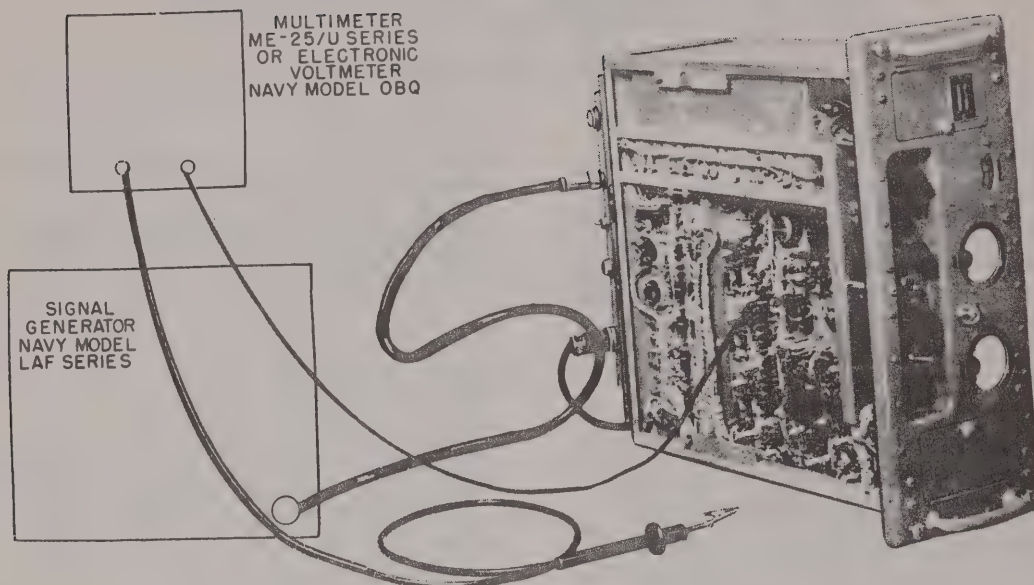
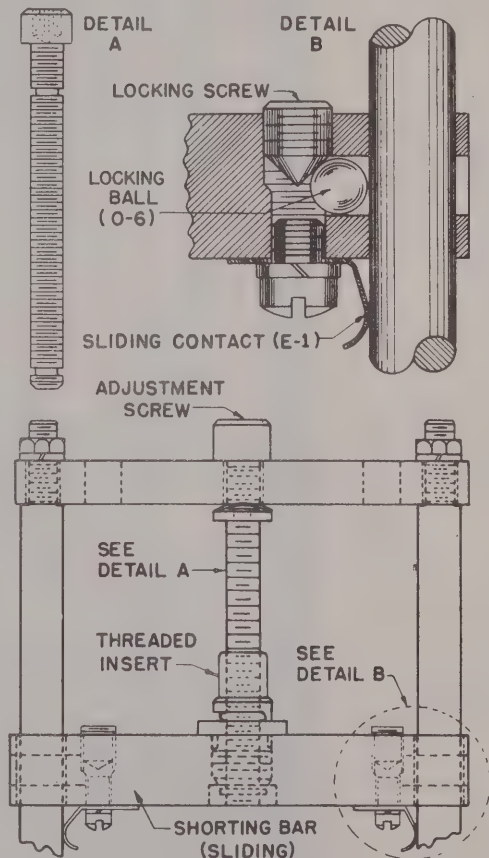

Figure 7-2. Bench Set-up for Alignment of R-f Section of Receiver
Figure 7-7. Details of Trimmer Inductances L103, L104, L107, L108, L111, and L112 (Preselector)
d. ALIGNMENT OF THE R-F SECTION OF THE RECEIVER (PRESELECTOR). (See figure 7-2).
The bench set-up for alignment of the preselector unit is shown in figure 7-2. Before beginning alignment remove the preselector shielding covers and loosen the inductance trimmer locking screws (figure 7-7) slightly (about $\frac{1}{8}$ th turn) by means of the Bristol type wrench mounted on the sub-panel near the dial drive assembly. Then replace the preselector shielding covers.
(8) With modulation OFF tune the Navy model LAF series signal generator for a maximum reading on the electronic multimeter. The output attenuator should be adjusted to give a reading of approximately 0.6 volts on the VTVM.
(9) Using the alignment tool, tune the r-f amplifier and mixer inductance trimmer screws (figure 7-7) for a maximum readings on the VTVM, in the following order:
(21) After alignment of the preselector, remove the preselector shielding covers and tighten the inductance trimmer locking screws (figure 7-7) carefully, so that the adjustments will not be disturbed.
(22) Check the alignment of the receiver by making sensitivity and reserve gain measurements.